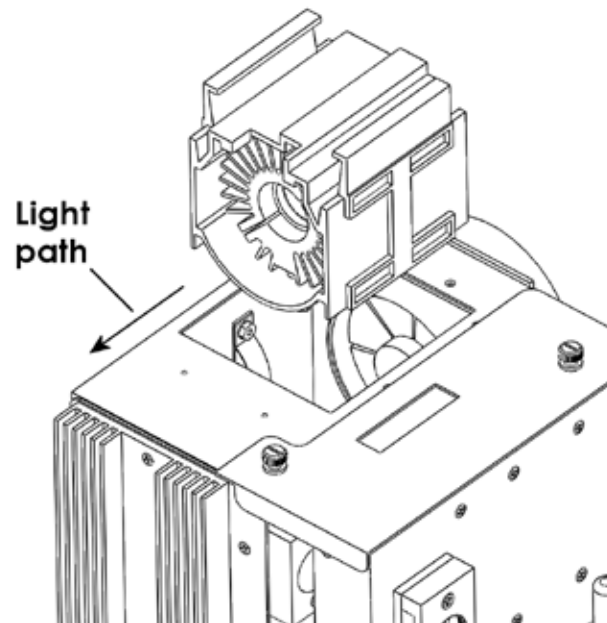

Figure 3-7. Returning the bulb assembly to the system.
1. Grasp the sides of the housing and carefully lower it, terminals forward, into the cabinet. The sapphire window should point away from the lamp fan (Figure 3-7).